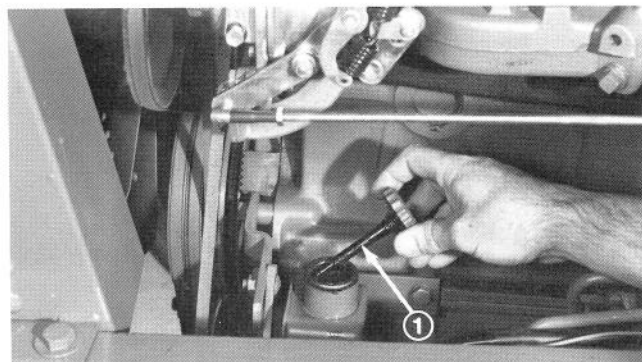
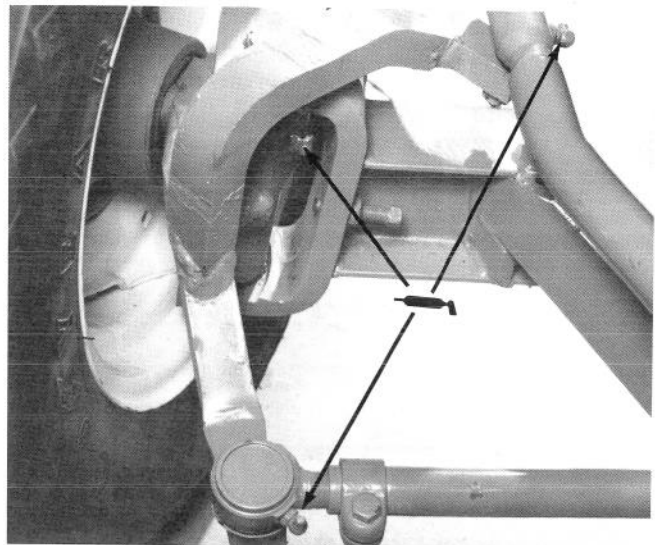
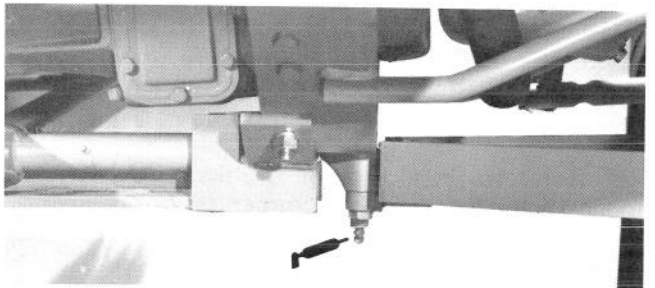
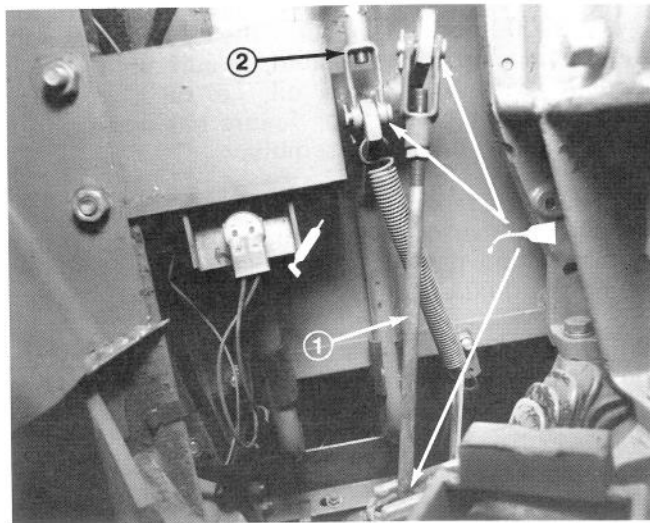

Figure 31
Figure 33
Figure 35
Figure 37
1. Check the fluid level every 200 hours of operation. Clean the area around the filler cap before removing the cap. The full mark is indicated on the dipstick (Fig. 31).
4. The slightest evidence of dirt, sludge or water discovered in the system is an indication the system oil should be drained and replaced. Drain by disconnecting the return line (Fig. 31). Run the engine at idle until the oil is completely drained. Shut the engine off, replace the line and refill the system to the proper level.
1. Use No. 2 Lithium Base Grease on the following lubricating points: Front Axle Pivot (Fig. 31); Front Axle Spindle Bearings, Left Hand and Right Hand (Fig. 33), Left and Right Hand Tie Rod Ends (Fig. 33), Front and Rear Drag Link Tube Ball Sockets (Fig. 33, 34), Wishbone Pivot Point (Fig. 35); Clutch and Brake Pedal Bushings (Fig. 37). Under floor panel on left hand side.
1. The clutch linkage should be lubricated with SAE 30 engine oil every 600 hours (Fig. 37).